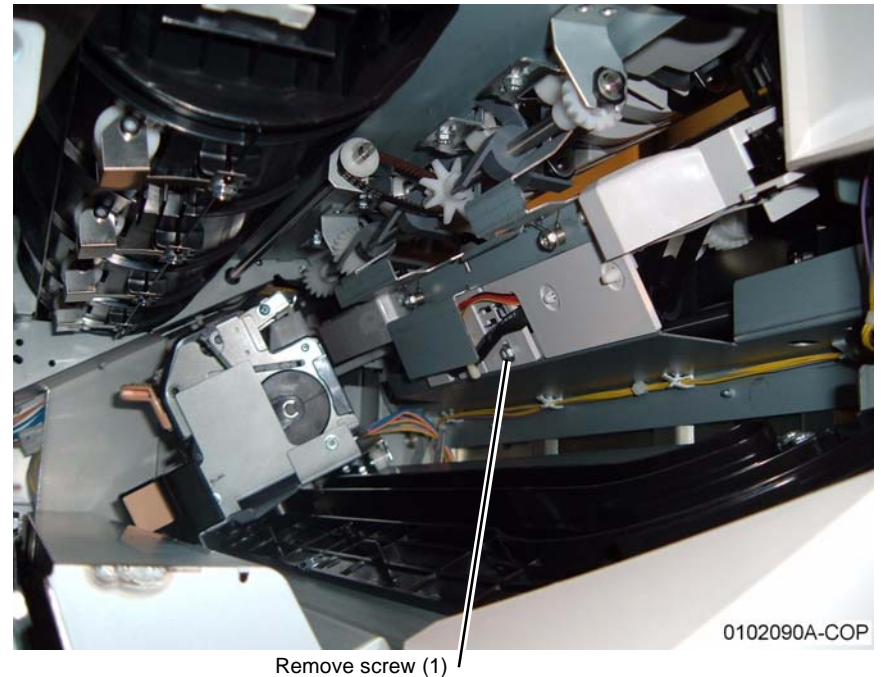

Figure 1 Removing screw securing the Compiler Tray
5. Remove screw securing the Compiler Tray (Figure 1).